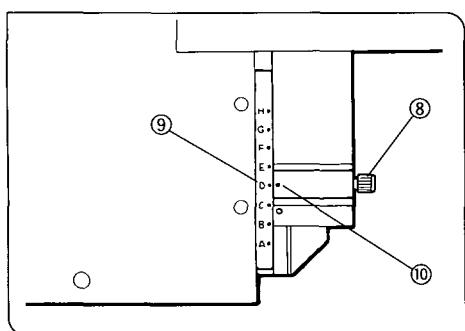

Fig. 62
3. Loosen the Y-axis index clamping knob ⑧ and move the scale to align the scale index • ⑨ with the index • ⑩. Then tighten the Y-axis index clamping knob. (Fig. 62)